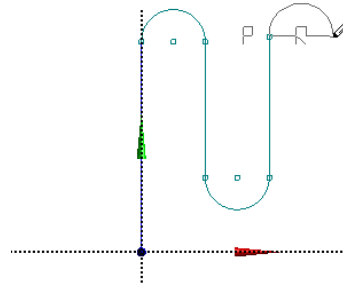

Figure 3-69 Specifying the endpoint of the arc 4
27. Move the cursor toward right till the symbol of Equal Radius constraint (R) is displayed. Click to specify the end point of arc 4, as shown in Figure 3-69.